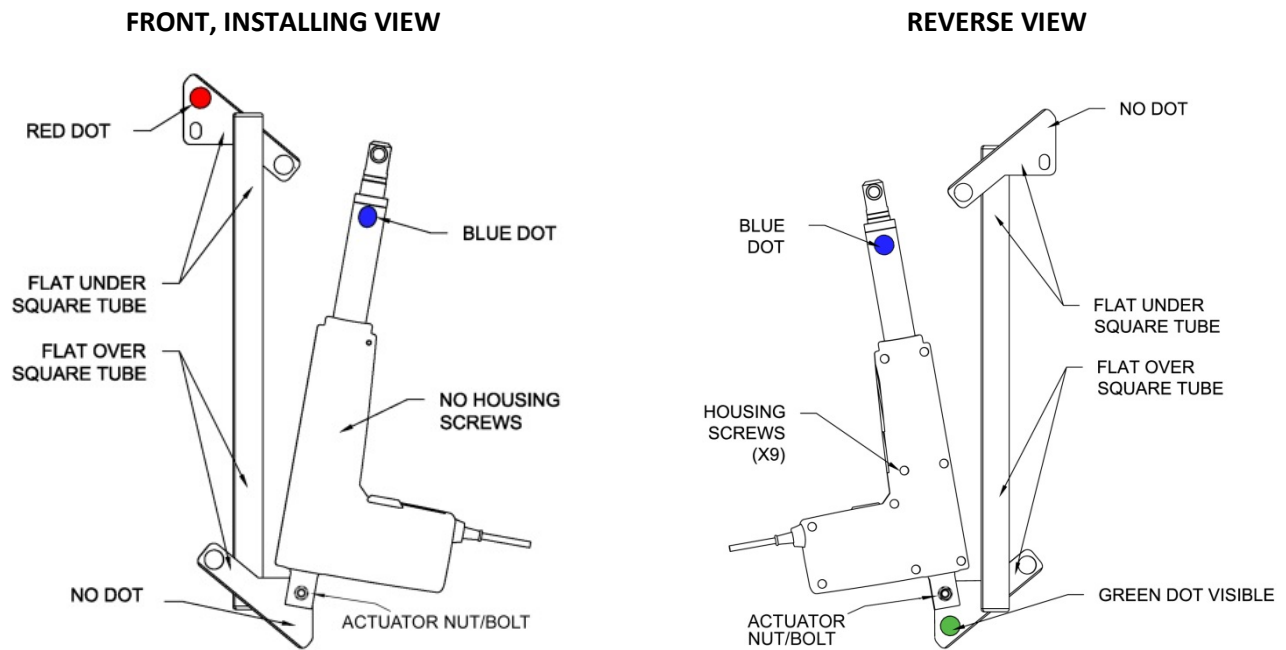

FIG. 8
- 3.6 For a left side mount, red dots will be facing outward, away from the bowl (FIG. 8). For a right side mount, green dots will be facing outward (FIG. 9).